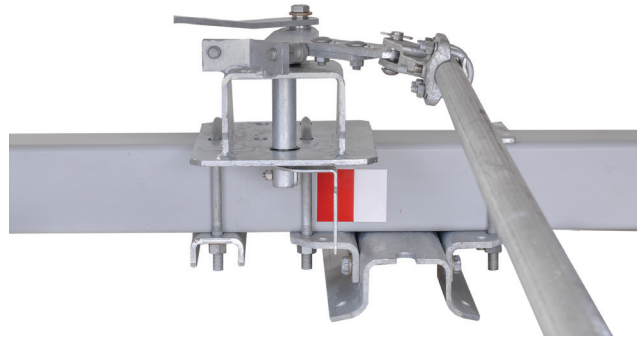

Figure 4. Reciprocating and hookstick mechanism overtoggle indicator.
**Overtoggle mechanism and visual overtoggle indicator** provide mechanical and visual assurance the switch blades are fully closed and will stay fully closed, eliminating contact creep and overheating even if the utility pole warps over time. See Figures 4 and 5.